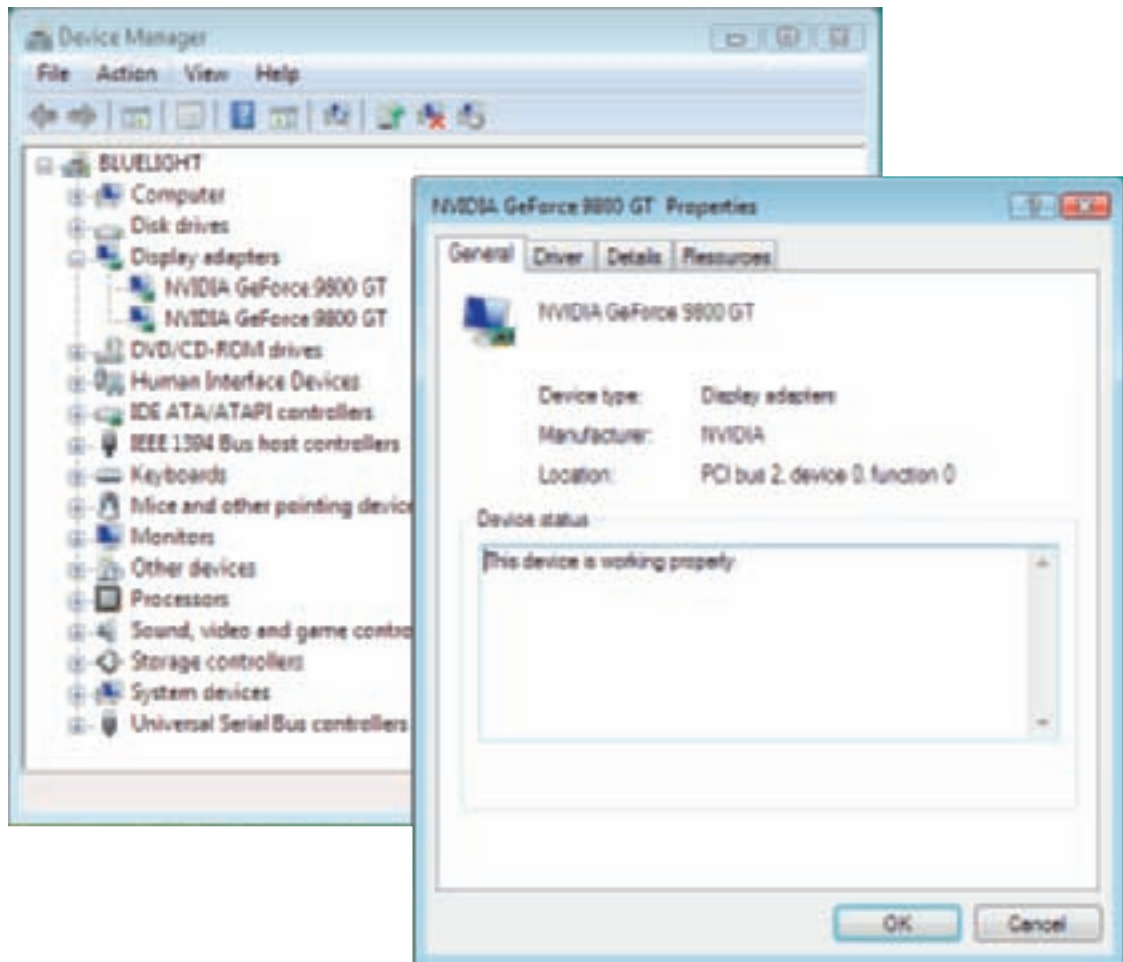

Figure 9-78 Two video cards are installed
3. Leave the monitor cable connected to the first card. Reboot and install the drivers for the second video card. After this installation, Device Manager should report two video cards installed with no problems (see Figure 9-78).